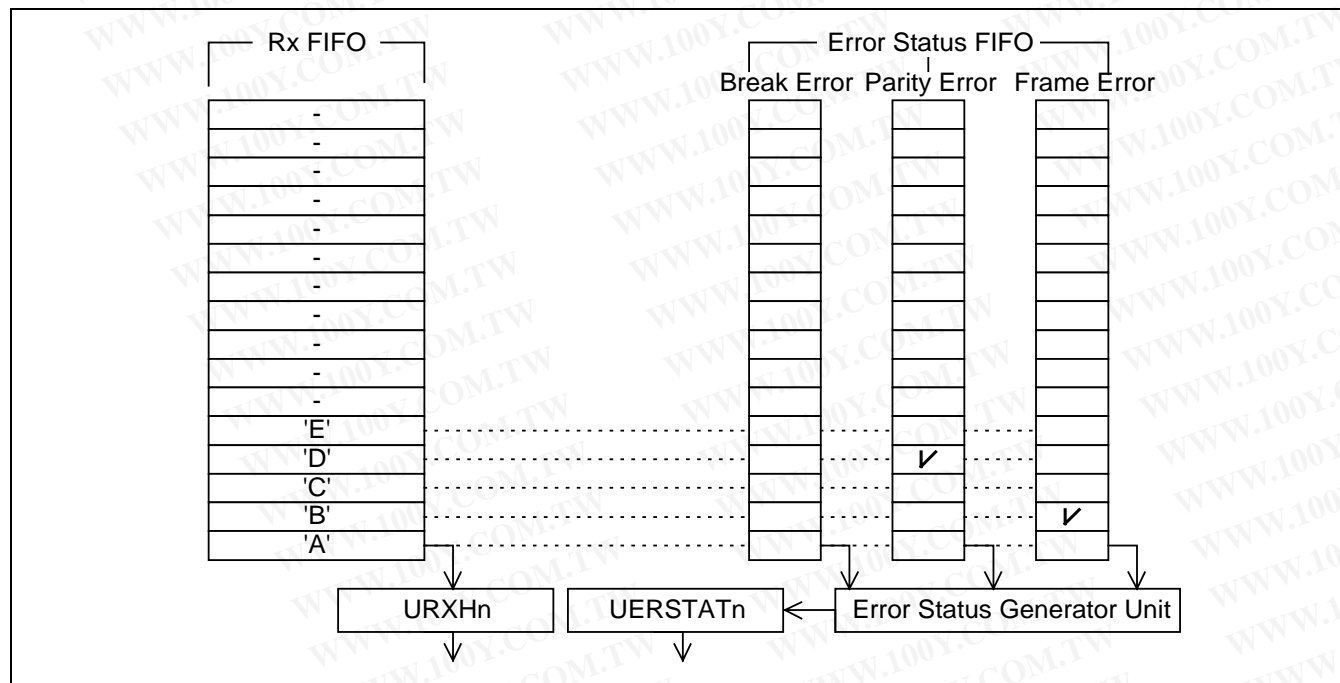

Figure 11-3. UART Receiving 5 Characters with 2 Errors
Figure 11-3 shows the UART receiving the five characters including the two errors.
The S3C2410X01 UART block supports infra-red (IR) transmission and reception, which can be selected by setting the Infra-red-mode bit in the UART line control register (ULCONn). Figure 11-3 illustrates how to implement the IR mode.